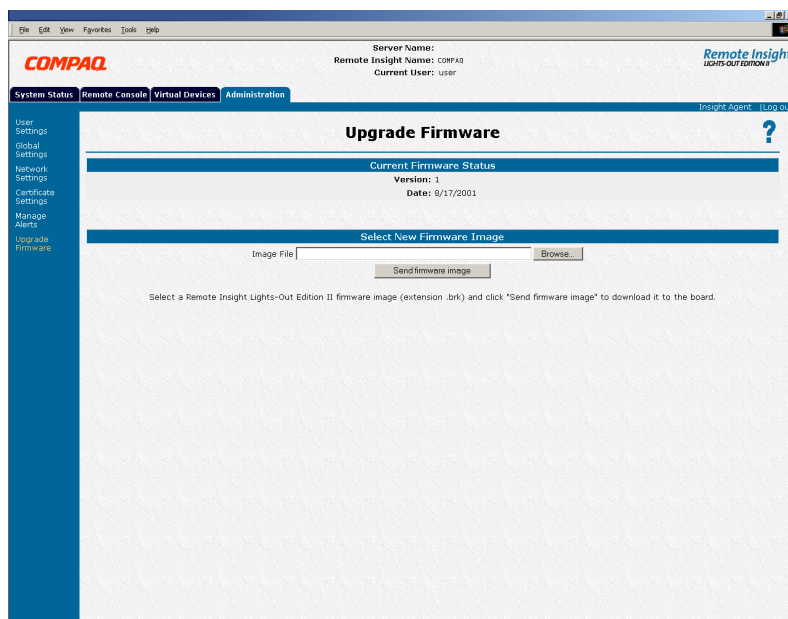

Figure 5-8: Upgrade Firmware screen
2. Click **Upgrade Firmware** on the **Administration** tab. A screen similar to Figure 5-8 displays.